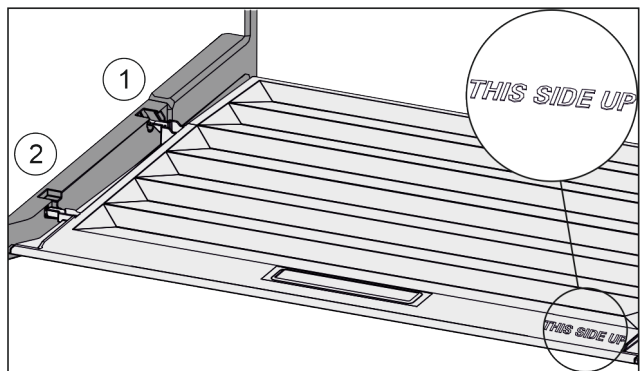

Fig. 73
- ▶ Insert the lip of the cover over the opening of the rear bracket Fig. 73 (1) and click into place Fig. 73 (2).